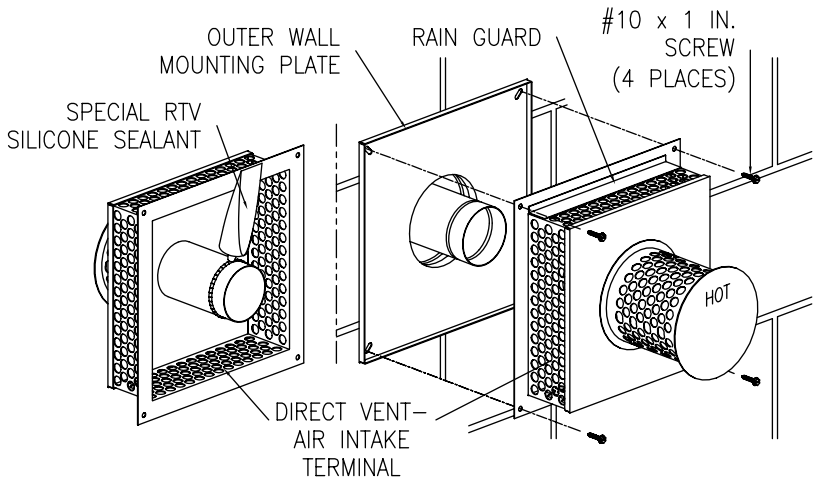

Figure 10
6. Place the straight end of the six (6) inch (15.2 cm) diameter elbow over the four (4) inch (10.2 cm) diameter elbow and plenum collar until seated on top of the plenum box. Make certain that the six (6) inch (15.2 cm) diameter elbow is oriented in the same direction as the four (4) inch (10.2 cm) diameter elbow and both are oriented in the correct direction. Drill three (3) 1/8 inch (3.0 mm) diameter holes, 120° apart, through the six (6) inch (15.2 cm) diameter elbow into the plenum collar. Fasten with three (3) #8 sheet metal screws (supplied) (See Figure 10).
10. Using the supplied special RTV silicone sealant, apply a bead one (1) inch (2.5 cm) from the end of the four (4) inch (10.2 cm) diameter tube that is part of the vent-air intake terminal. Slide the direct vent-air intake terminal into the four (4) inch (10.2 cm) diameter telescopic tube that extends through the wall and position it so it is flush with the outer wall mounting plate. Make sure that the rain guard and the word "HOT" on the end of the direct vent-air intake terminal are oriented properly. Secure the direct vent-air intake terminal to the outer wall mounting plate and wall with four (4) #10 x 1 inch screws (supplied) (See Figure 10). Note: Certain construction of walls may require the use of different type of anchoring means than supplied. **DO NOT** modify the direct vent-air intake terminal or outer wall mounting plate.